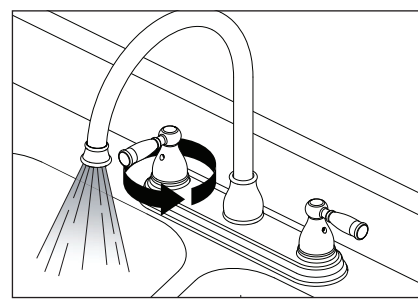

Figure 9 - Let the hot water run until it is cool.
- 5 Open a hot water faucet and let the hot water run until it is cool (Figure 9). **NOTICE:** This may take 10 minutes or longer.